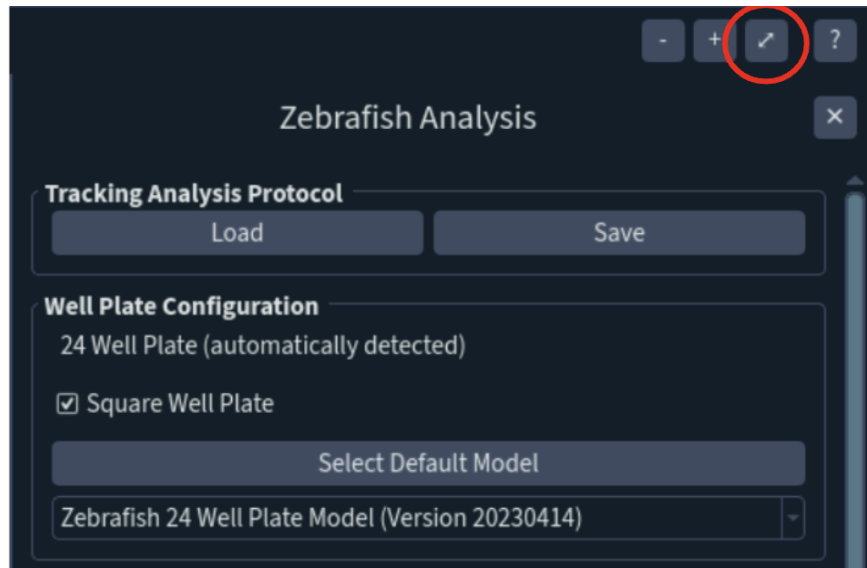

Fig 78: Full composite button.
- 5) To quickly fit the FOV to the full composite press the following button (Fig 78):